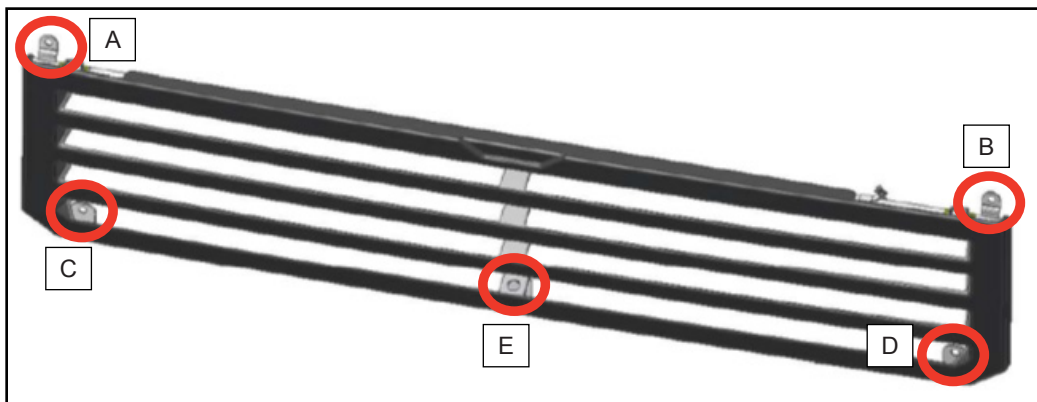

Figure 5 - Typical View of Radiator Canopy Hardware Installation
1.6. Clean the screw with brake cleaner and apply loctite 242 to the screw thread (N71421) at positions (A, B, C, D, E) and refit the same with retained hardware (see Figure 5).